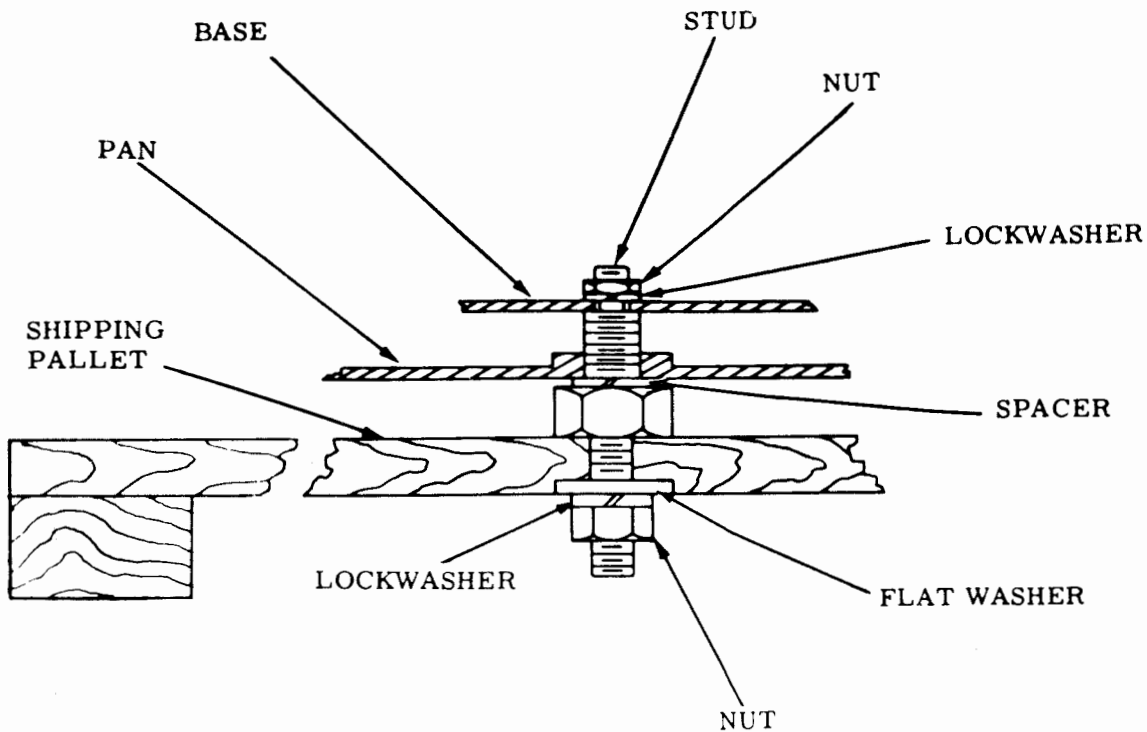

Figure 8-1. Shipping Stud Details
8-2. UNPACKING. Each teletypewriter set is shipped completely assembled in a single container. As shown in figure 8-1, the keyboard (KSR) or base (RO) is attached to a wooden pallet, with shipping studs and nuts, in such a manner as to disable the vibration mounts during shipment. Exercise care when unpacking. To remove set from container, proceed as follows:
a. Normal Mounting. The teletypewriter set is normally mounted as follows: (See figure 8-1.)
(1) Remove cover to gain access to upper ends of shipping studs.
(2) Remove nuts and lockwashers from upper ends of shipping studs.
(3) With wooden pallet raised, remove nuts, lockwashers, and flat washers
b. Special Shock Mounting. The teletypewriter set can be mounted using special shock mounts. The wooden pallet can serve as a temporary fixture for supporting the set and protecting the studs until the special shock mounts are attached. Proceed as follows: (See figure 8-1.)
(1) With pallet raised, remove nuts, lockwasher, and flat washer from bottom ends of shipping studs.